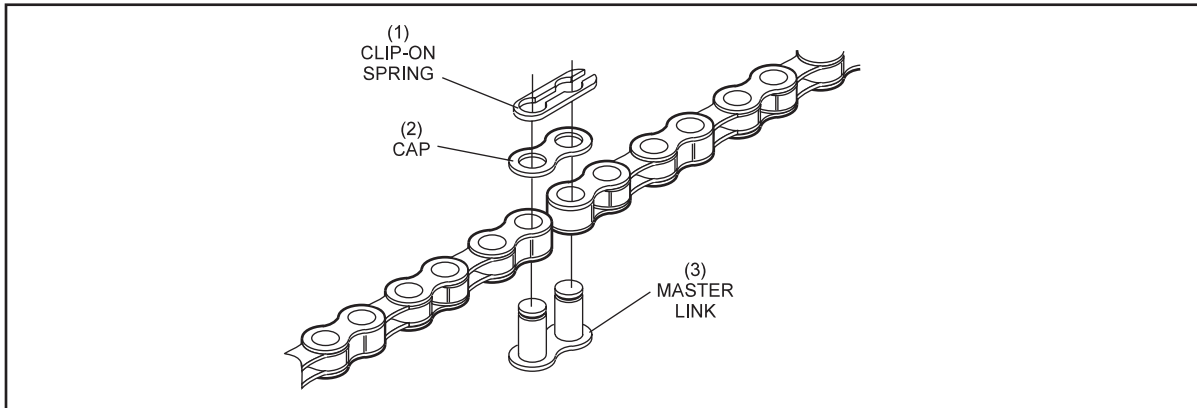

Figure 8-15. Chain Repair
(1) CHAIN REPAIR TOOL (2) CHAIN
6. Place the cap on both pins of the master link. Refer to *Figure 8-15*.